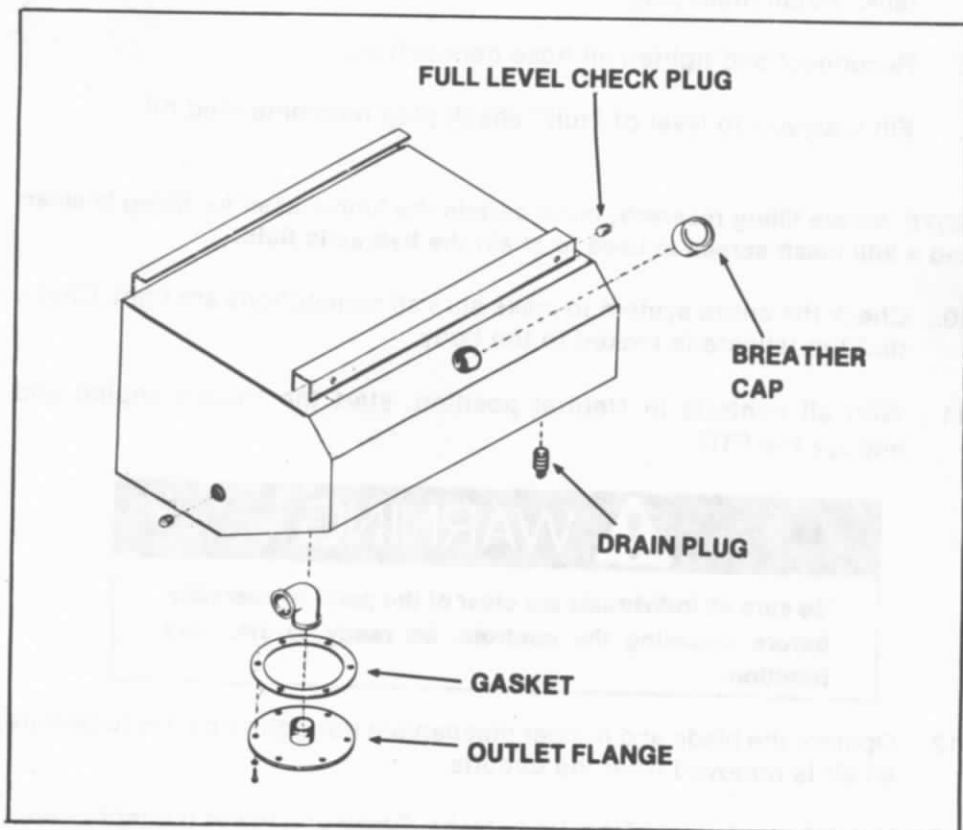

Figure 15. Oil Reservoir
2. Remove the breather cap and then the drain plug from bottom of the reservoir. (See figure 15.)